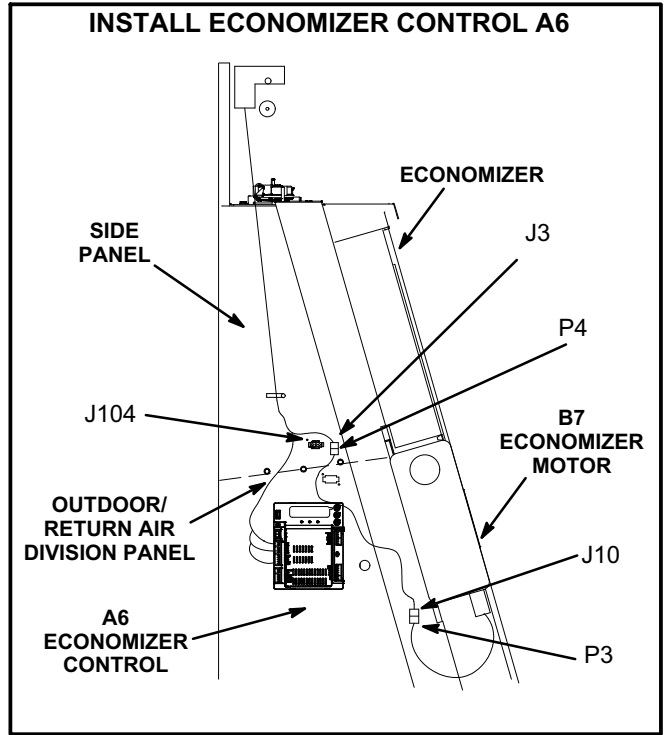

FIGURE 15
- 1- Install A6 economizer control on economizer side panel as shown in figure 15. Secure with #6-32 X 7/8" TFS screws provided.
- 1- Locate 15-pin J3 unit control harness hanging on left side of filter compartment. See figure 15. Disconnect P3 jumper plug from J3 and retain jumper plug for future troubleshooting.
- 2- Connect the 15-pin male plug P4 from the economizer control (A6) harness to the 15-pin female jack J3 on the unit control harness. See figure 15.
- 3- Locate **brown and yellow kit harness** with wires labeled J104-1 & J104-2 on one end and A6-OAT, A6-COM, & A6-AUX-A1 on the other end. Insert the connector with wires labeled J104-1 & 2 into the opening on economizer side panel and snap into place. See figure 15.
- 4- Connect the 15-pin female plug J10 to the 15-pin male plug P3 from the damper motor. See figure 15.